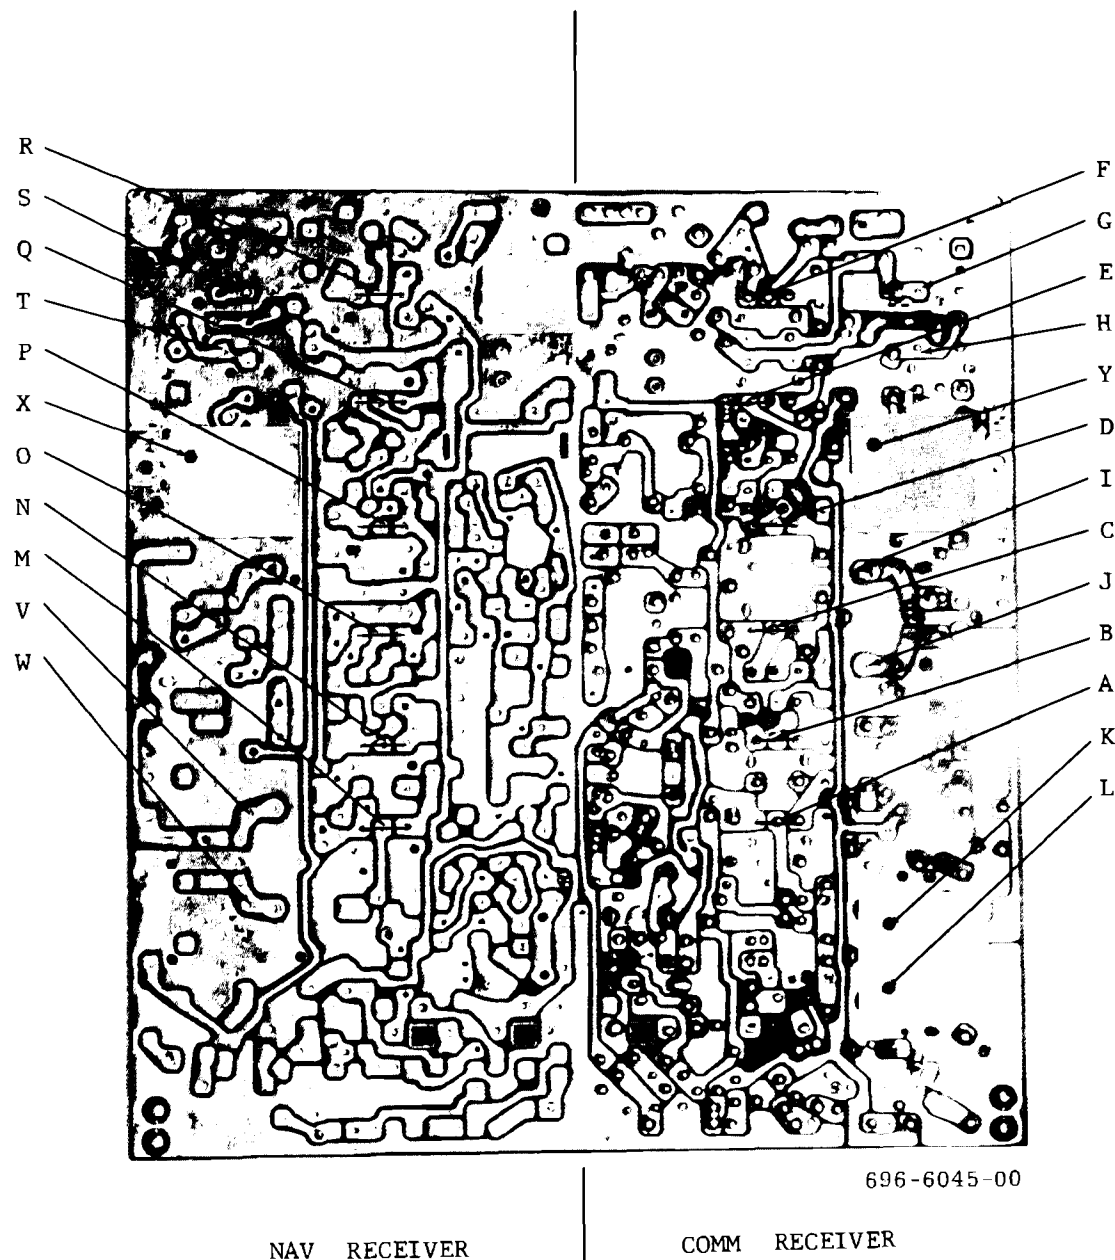

FIGURE 5-6A RECEIVER ALIGNMENT LOADING POINTS
- a. Test points and alignment references may be located on Figures 5-6A and 5-6B.